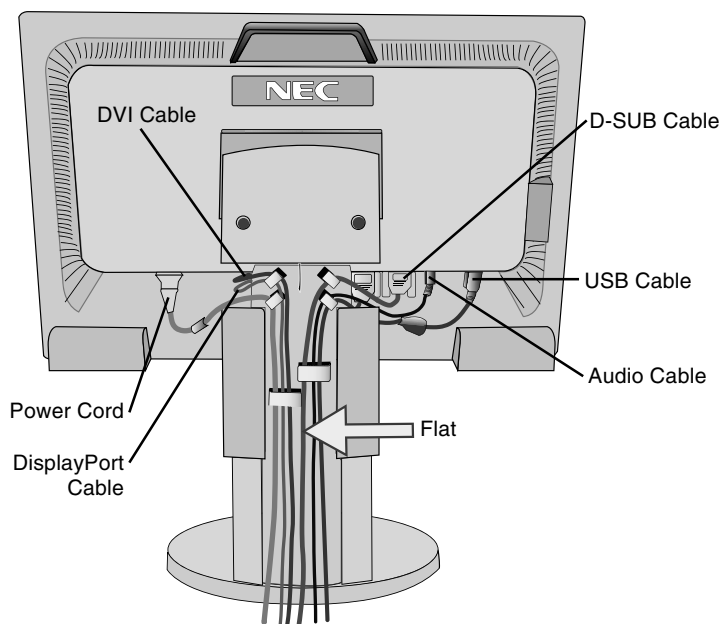
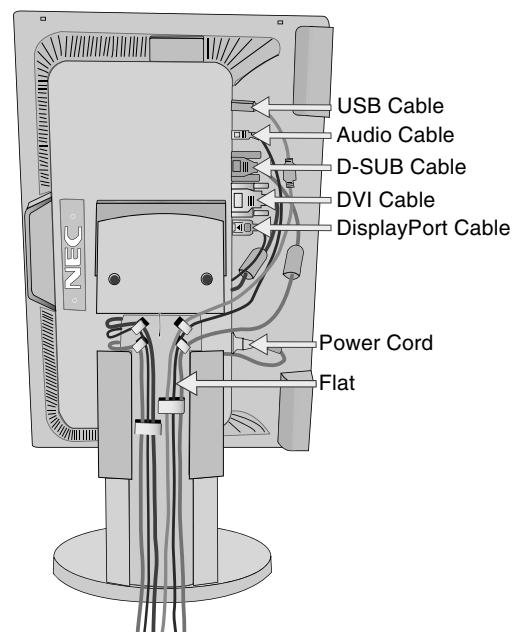

Figure C.2
Figure C.3
5. To keep the cables neatly organized, place them into the cable management system that is built into the stand. Place the Power cord and DVI cables into the specific hooks, as indicated in **Figure C.2/Figure C.3**. Place the D-Sub and the USB cables into the specific hooks, as indicated in **Figure C.2/Figure C.3**.
6. Make sure all cables are resting flat against the stand (**Figure C.2/Figure C.3**). Please check Tilt, Rise and Lower monitor screen and screen rotation when you manage cables.